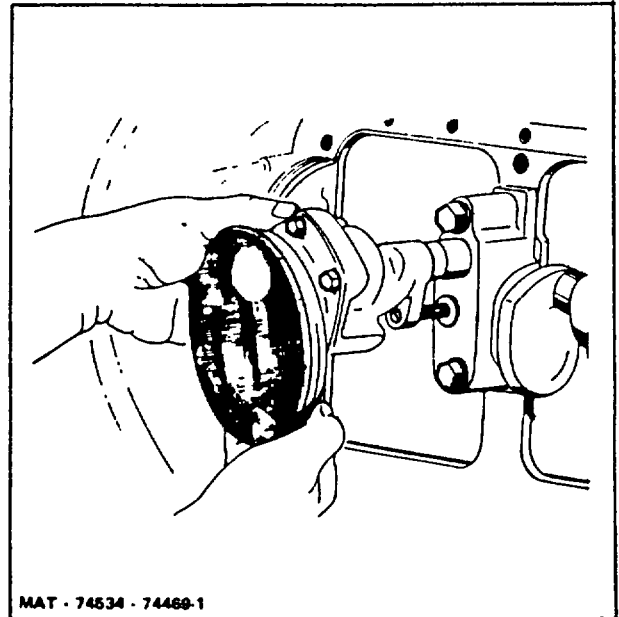

Figure 67. Oil Pump Removal
3. With the engine resting on its side, remove nut and washer holding the oil pump assembly to the center main bearing cap. Remove the oil pump assembly (Figure 67).